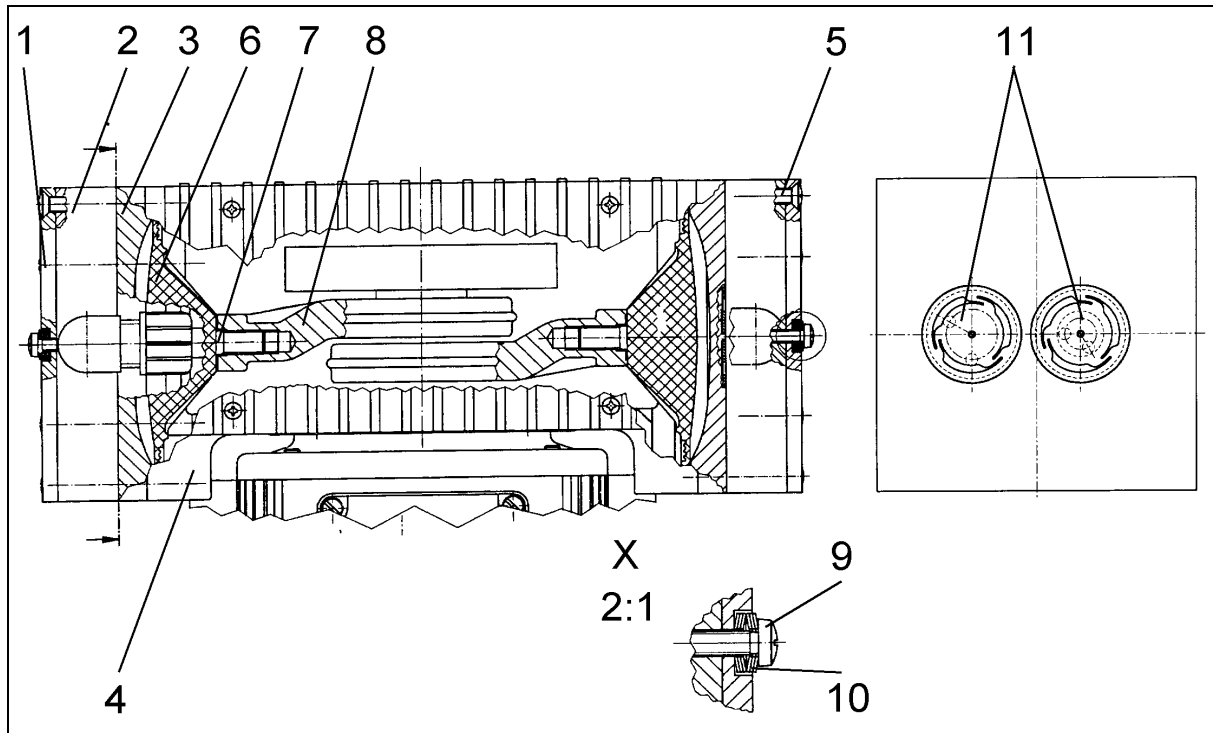

Fig. 4: Pump heads FTI types (symbolic)
The position numbers in the following text refer to fig. 4 & 5.
1. Turn the fan to bring the structured diaphragm (6) to medium position.
2. Place the intermediate plate (3), with valve plates/sealings (11) on the housing, in the position indicated by the marking (M).
3. Place the head plate (2) on the intermediate plate (3) in the position indicated by the marking (M).
4. Place pressure plate (1) in position and insert screws (9) with disk springs (10), and tighten them until the screw heads are just fully seated (do not completely tighten them!).
- The concave side of the first three disk springs must point away from the screw head, the next three towards it (see fig. 4, detail X).
5. Gently tighten the screws (5), evenly and diagonally.
7. Now tighten screws (5) firmly.
8. Tighten each of the screws (9) a half turn more.